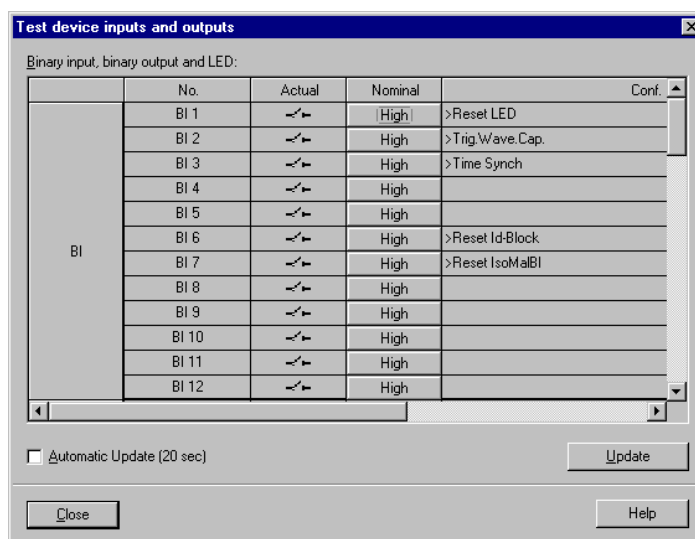

Figure 7-7 Dialog box devices in/outputs – Example
- ☐ Double-click in the list **Test device inputs and outputs**. The dialog box with this name is opened (see Figure 7-7, page 269).